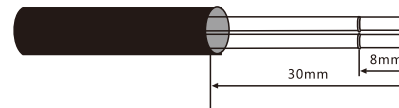

Figure 5.28
- Use a wire stripper to peel off the insulation layer of the communication cables to a certain length as shown in Figure 5.28.